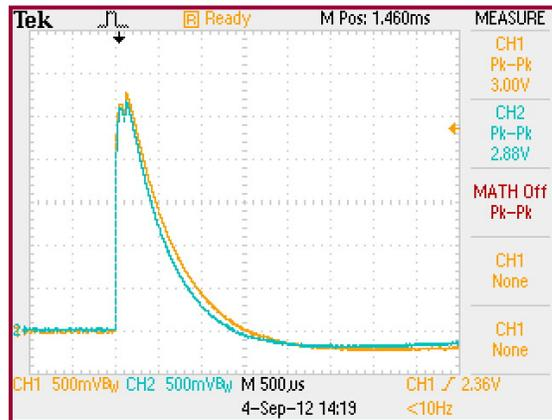

Figure 5.0-5: Typical  $\Delta V$  for a "good" bag (12V)
- d. Set the "SINGLE SEQ" button and initiate a discharge. For a "good" shielding bag, ( $\Delta V < 30V$ ) the waveform should look similar to that shown in Figure 5.0-5. If the signal levels of CH-1 and/or CH-2 exceed the dynamic range of the scope sensitivity level selected this will cause the input amplifier to saturate, causing a significant measurement error. This condition normally occurs when buried metal layer bags are tested and 50, 100 or 200 mV sensitivity levels are selected to obtain greater voltage differential resolution.